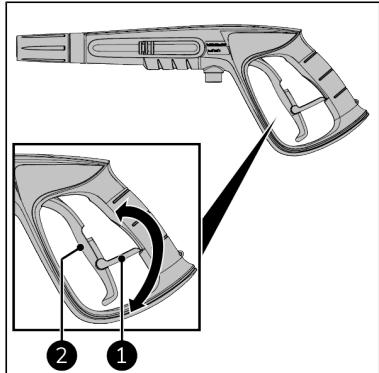

Figure 35.
1. Make sure that the safety lock under the trigger is locked (Figure 35).
1. If applicable, release the trigger (Figure 35, pos. 2).
2. Turn the trigger (Figure 35, pos. 1) lock.